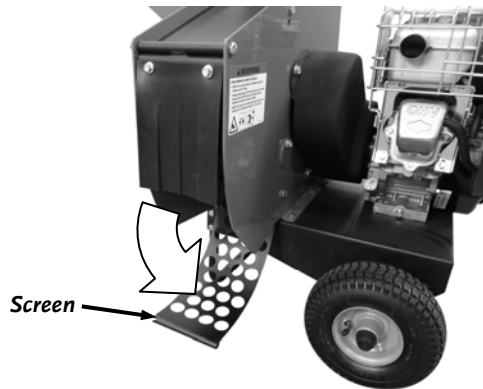

Figure 21
2. Rotate the Screen down to gain access to the cutting chamber (**Figure 21**).